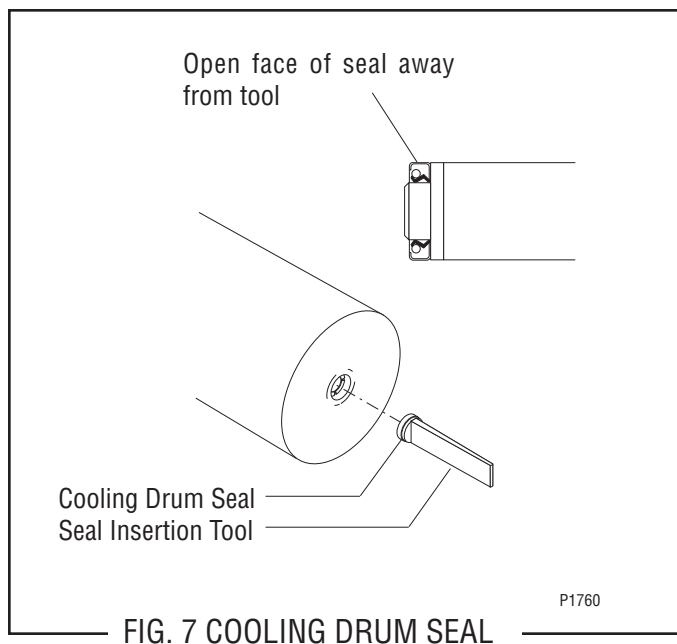

FIG. 7 COOLING DRUM SEAL
11. Place seal on insertion tool #28395.0000, as shown in Fig. 7. Make sure open face of seal is toward cooling drum.